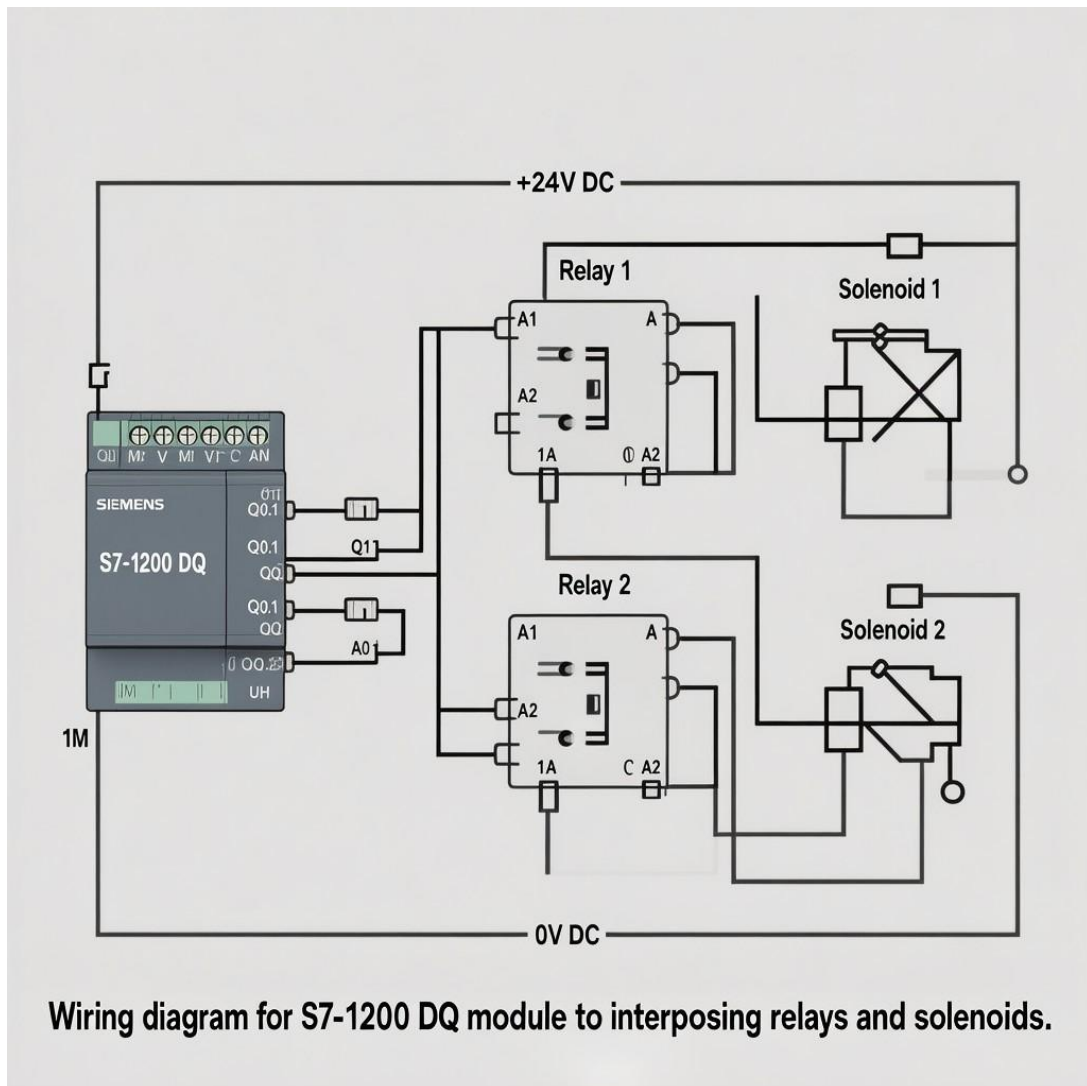

Figure 7.2: Wiring diagram for S7-1200 DQ module to interposing relays and solenoids.
**2. Output Wiring (PLC Acts)** The PLC's Digital Output (DO) terminals are its "muscles." The S7-1215C DC/DC/DC model has transistor outputs, which are fast and reliable but are low-current and sensitive. They cannot safely power an inductive load like a solenoid coil, which can create a damaging voltage spike when turned off. Therefore, we **must** use interposing relays as a protective interface. The PLC output sends a small 24V DC signal to the relay coil. The relay's robust, isolated contact then switches a separate, higher-current 24V DC supply to the solenoid. This protects the PLC from electrical noise and overcurrent. Figure 7.2 shows this critical connection.